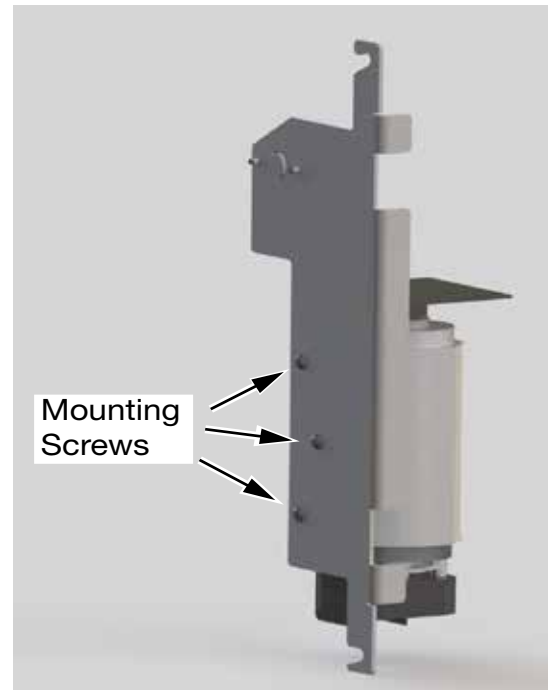

Figure 5: FP16 Blower Mounting Screws.
5. Remove the three bolts securing the blower to the mounting bracket(Figure 5) and replace the blower.